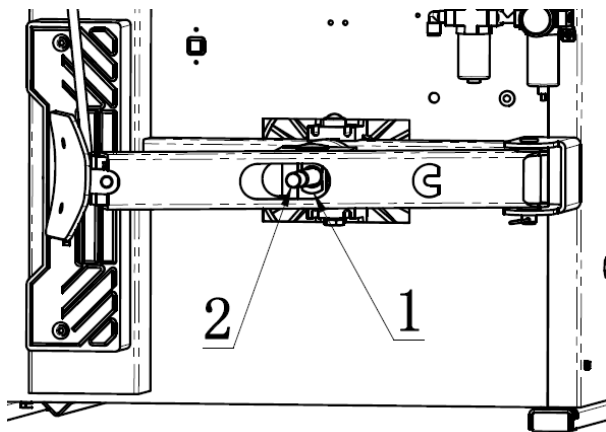
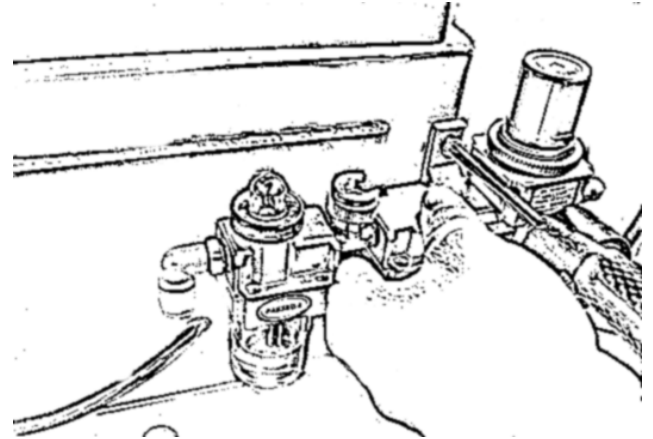

fig10
FIG11
3.2.5 Position the bead breaking arm shaft bushing into the bead breaking support plate on the body (FIG 9-1 to align the hole and install the bead breaking bolt (FIG9-2) and assemble the nut to lock (FIG 8-4) . Insert the piston rod (FIG10-2) through the hole of the bead breaking slide bushing(FIG10-1) . The surface of the slide bushing should be outwards (FIG 10) . Assemble the removed nut (FIG 8-1) into the front end of the piston rod. The nut will be assembled. The distance from the edge of the bead breaking blade to the bead breaking rubber is 30~40mm (FIG11) . Hang the spring.